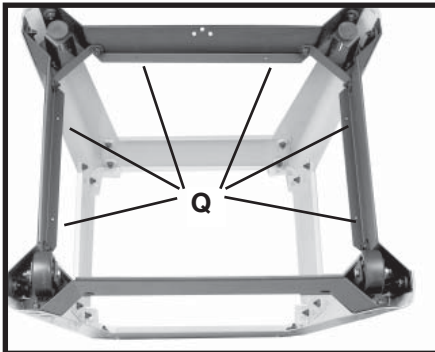

Fig. 20
10. The brackets with the open end, as shown at (M) Fig. 14, are attached in a similar manner as described in Steps 6 to 9. **NOTE: MAKE SURE THE OPEN END IS ALIGNED AS SHOWN IN FIGS. 14 AND 15. THE WHEELS WILL BE INSTALLED INSIDE THESE BRACKETS, AS SHOWN IN FIG. 20.**
13. Fig. 20 shows the leveling feet and the wheels properly assembled.
If you desire, you can install a shelf made from a piece of $\frac{3}{4}$ -inch plywood measuring $22\frac{3}{8}$ " x $19\frac{1}{4}$ " (568.96 mm x 488.95 mm). To install, screw the wood to the leg supports through the (8) holes in the leg supports, six of which are shown at (Q) Fig. 20. When the saw is upside down (as in Fig. 20) the shelf would be placed underneath the overhangs of the leg supports. When the saw is flipped right-side up, the shelf would be on top of the leg support overhangs. To install the shelf, it will be necessary to remove one side panel. Make sure this panel is re-installed before using the saw. See exact measurements for shelf in the back of this manual.